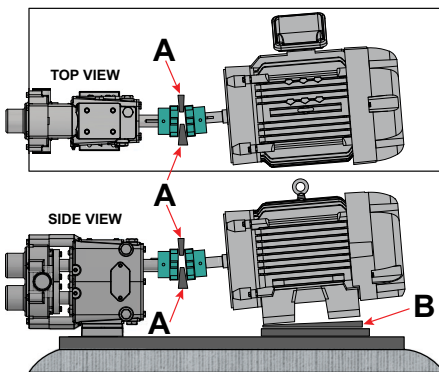

Figure 19 - Check Angular Alignment
1. Using feeler gauges or taper gauges (Figure 19, items A and B), check the alignment at four points every 90 degrees around the coupling; **adjust to equal dimension at all points.**